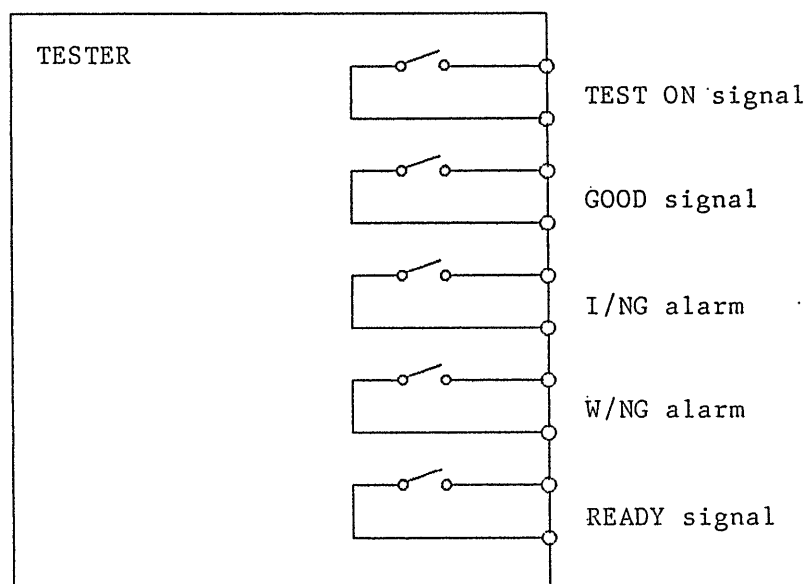

Figure 4.8
(2) Contact signals
- ① The contact signals are only with contacts and without any power sources as Figure 4.8. Therefore, cannot drive any loads which have no power.